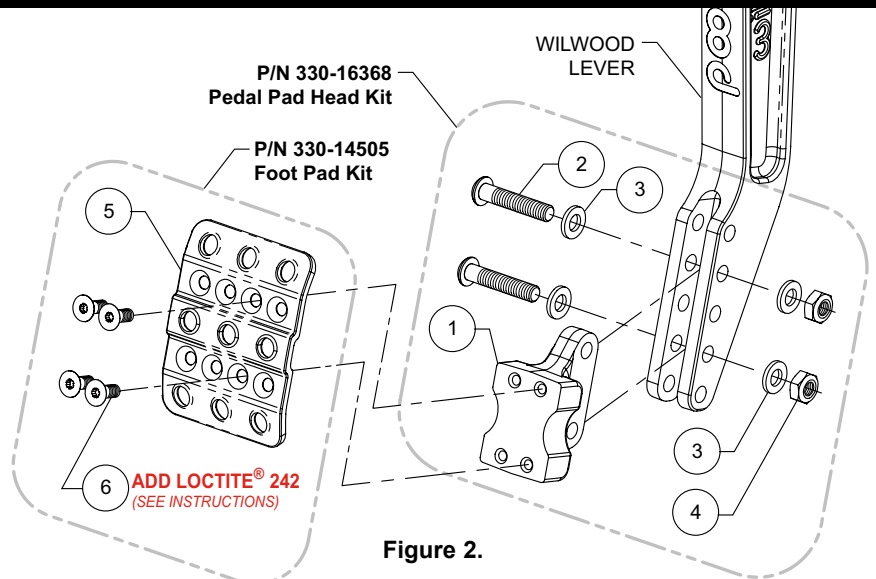

Figure 2.
•Install the pedal pad head (1) into the “fork” of the pedal arm in the desired location as shown in Figure 2. Secure in place using bolts (2), washers (3), and locknuts (4).
•Torque locknuts (4) to 120 in-lbs.
•Orient foot pad (5) as shown in Figure 2. Pad may be installed in three different positions as shown in Foot Pad Detail of Figure 1b. Secure to pedal head (1) using four T-20 drive Torx screws (6). Apply blue *Loctite*® 242 to the threads and torque screws to 75 in-lbs.